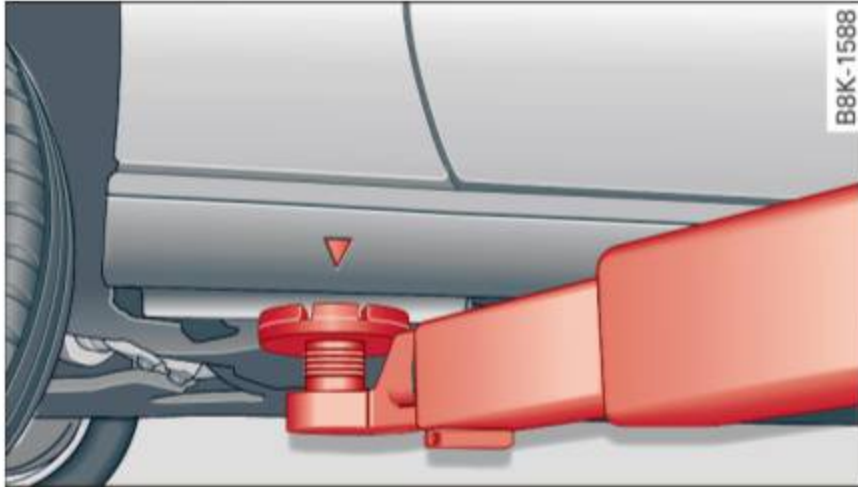
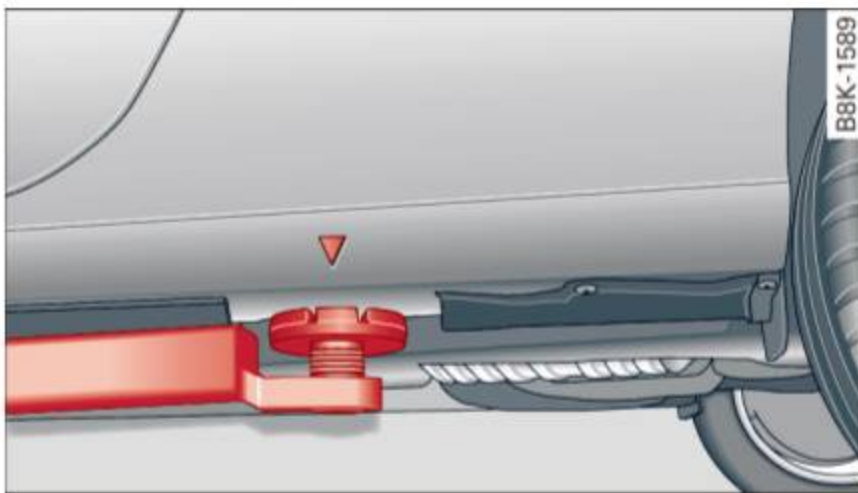

Fig. 192 Front lifting point
Fig. 193 Rear lifting point
- ▶ Locate lifting points ⇒ fig. 192 and ⇒ fig. 193.
The lifting point is located on the floor pan reinforcement about at the same level as the jack mounting point ⇒ fig. 192. **Do not lift the vehicle at the vertical sill reinforcement.**
The lifting point is located on the vertical reinforcement of the lower sill for the onboard jack ⇒ fig. 193.
- Always lift the vehicle only at the special workshop hoist and floor jack lift points illustrated ⇒ fig. 192 and ⇒ fig. 193.